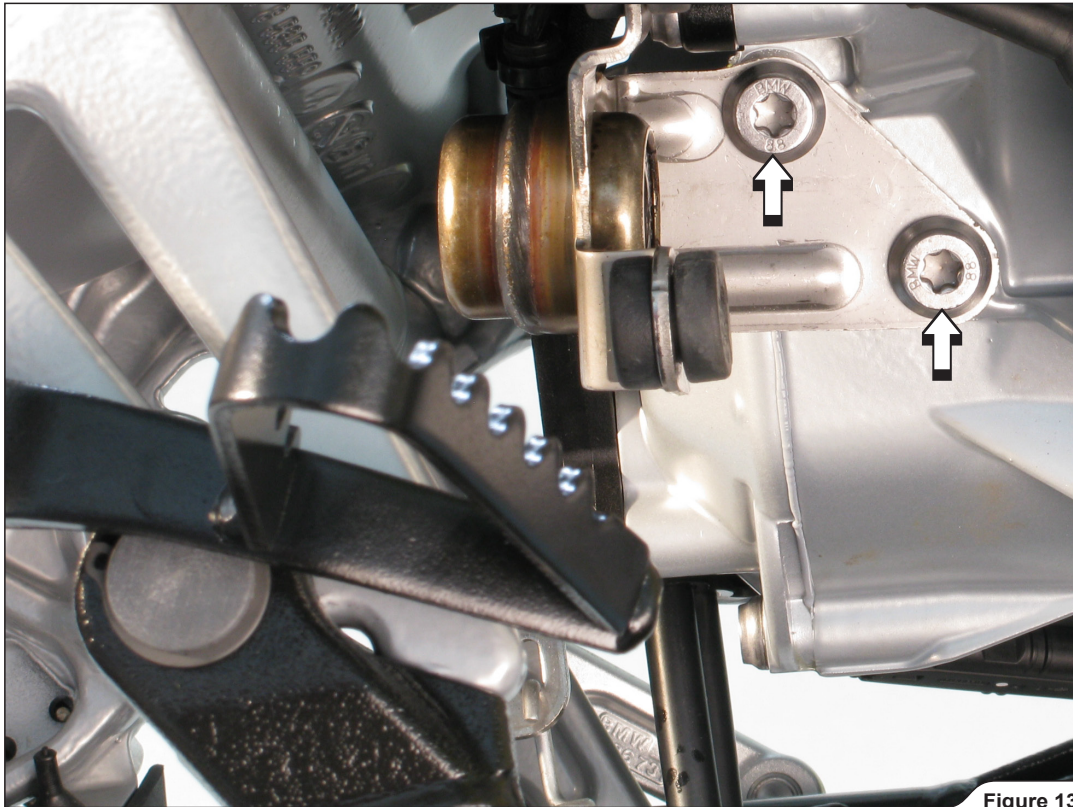

Figure 13
10. Unscrew the marked bolts and remove the header's rubber bracket off the motorcycle (Figure 13).